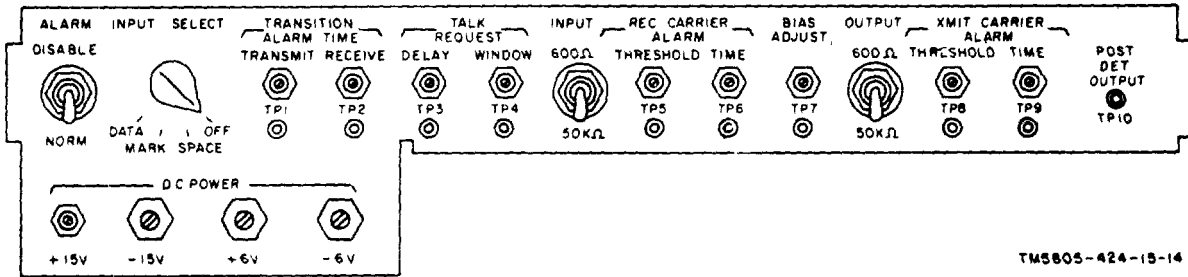

Figure 2-3. Control shelf, controls and test jacks.
- (1) Connect one of the MD-674(P)/G's as indicated in b(1) through (13) above.
- (2) Connect the remaining MD-674(P)/G's as indicated in b(1) through (10) and (13) above.
- (3) Connect parallel connections between terminals 12, 13, and 14 of terminal board TB2 on each MD-674(P)/G.
- (4) Connect parallel connections between terminals 15, 16, and 17 of terminal board TB2 on each MD-674(P)/G.
- (5) Operate the INPUT and OUTPUT impedance switches (fig. 2-3) on one of the MD-674(P)/G's to 600Ω.
- (6) Operate the INPUT and OUTPUT impedance switches on the remaining MD674(P)/G's to 50KΩ.
- (1) Connect the 115- or 230-volt ac power to terminals 3, 4, and 5 of terminal board TB4 on both MD-674(P)/G's.
(2) Connect terminals 1, 2, and 3 of terminal board TB1 on each MD-674(P)/G to terminals 4, 5, and 6 of terminal board TB1 on the opposite MD-674(P)/G.
(3) If neither MD-674(P)/G contains an OA-8072/G, connect external timing signals to terminals 7, 8, and 9 of terminal board TB1 on each MD-674(P)/G. If only one MD-674(P)/G contains an OA-8072/G, connect terminals 10, 11, and 12 of TB1 on the MD-674(P)/G with the OA-8072/G to terminals 7, 8, and 9, respectively, of terminal board TB1 on the MD-674(P)/G without the OA-8072/G. If both units contain an OA-8072/G, remove the OA-8072/G from one unit, strap for external clock (para 2-4b), and connect timing in accordance with preceding sentence.
(4) Connect the vf output (send side) from terminals 12, 13, and 14 of terminal board TB2.
(5) Connect the vf input (receive side) to terminals 15, 16, and 17 of terminal board TB2.
(6) Connect terminals 3, 4, and 5 of terminal board TB3 on each MD-674(P)/G to terminals 18, 19, and 20 of terminal board TB2 on the opposite MD-674(P)/G.
(7) Connect the ground leads as indicated in b(13) above.
(8) Operate the INPUT and OUTPUT impedance switches (fig. 2-3) on both of the MD674(P)/G's to 6000.